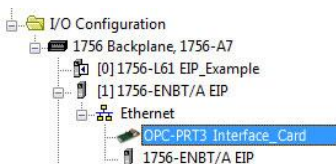

Figure 34: AOP Interface Card I/O Configuration
- 14) You should now see the interface card in the 1756-ENBT/A branch under the I/O Configuration in the controller organizer view. The full I/O Configuration tree should appear similar to Figure 34.